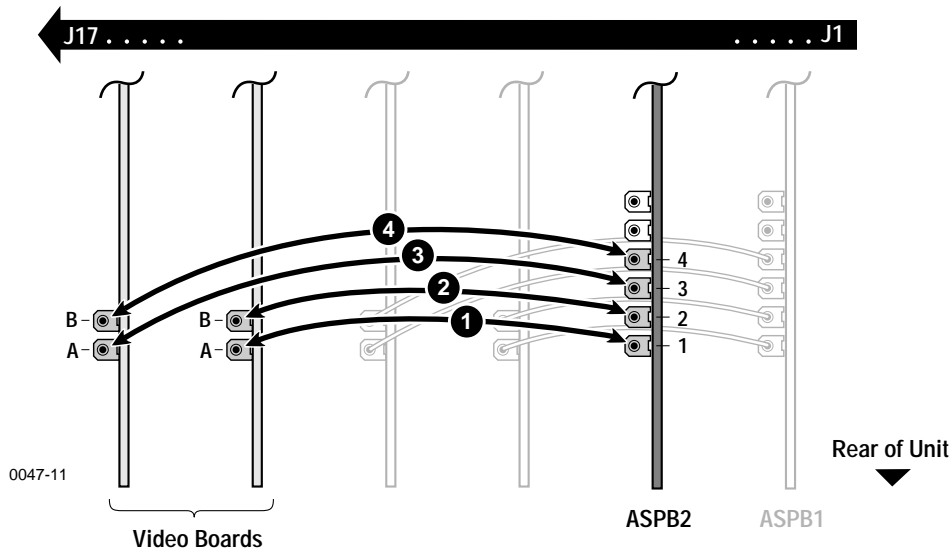

Figure 14. Audio Clock cabling example for ASPB2
- b. Connect the other end of the cable to Channel A of the video input board in the next higher numbered board slot (❶ in example Figure 14) or to Channel B of the same video input board to which the previous ASPB1 clock cable was attached.
- a. Proceeding with ASPB2 Audio Clock2, repeat step 5 until all remaining video input references are connected or until all four ASPB2 audio clock connectors are used (②, ③, ④ in example Figure 14).
- b. When you are finished, compare your ASPB2 cabling with the example in Figure 14.